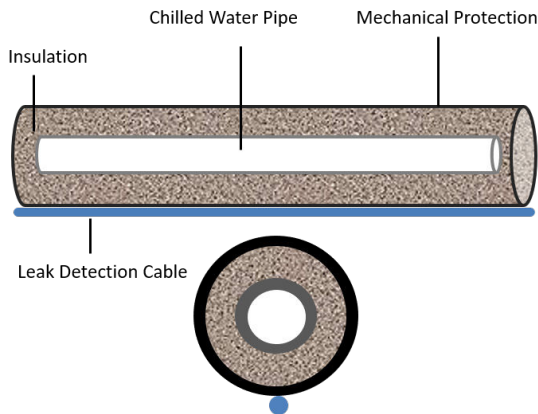
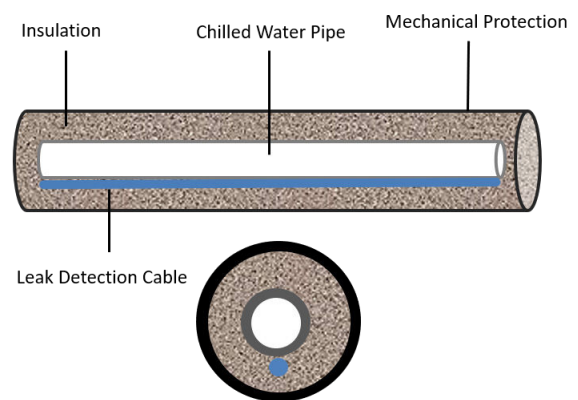

Figure 2.3.1
Figure 2.3.2
For pipe with insulation (without drip tray), figure 2.3.1 et figure 2.3.2 present two kinds of water sensing cable installation.
Layout Explanation (Figure 2.3.1 & Figure 2.3.2) :
- The sense cable FG-ECB is installed outside the insulation, on the outside diameter of the mechanical protection sleeve. (Figure 2.3.1);
- The sense cable is installed inside the insulation, on the outside diameter of and under the chilled water pipe (In this case, take into account of condensation phenomena) (Figure 2.3.2).